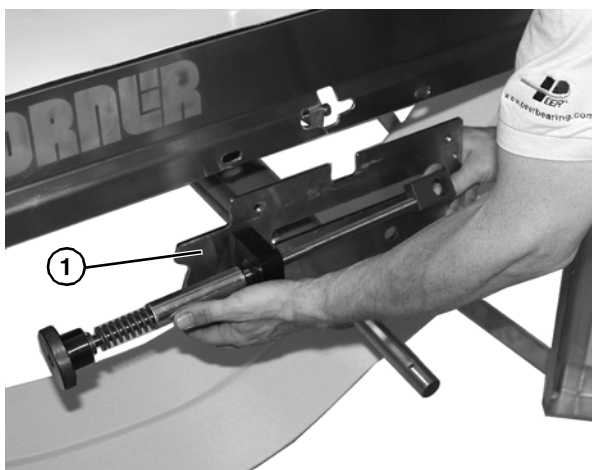

Figure 95
12. Remove plate assembly (Figure 95, item 1) from conveyor.